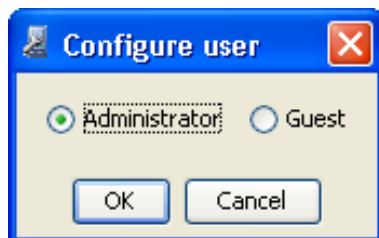

Fig. 4.7 Access Rights Selection Box
4. The Bosch RAIDWatch Server dialog box appears. Select to log in either as an Administrator or Guest. An administrator has the authority to change any Bosch RAIDWatch Server settings, unlike a guest is allowed to view the settings only. (See *Figure 4.7*)